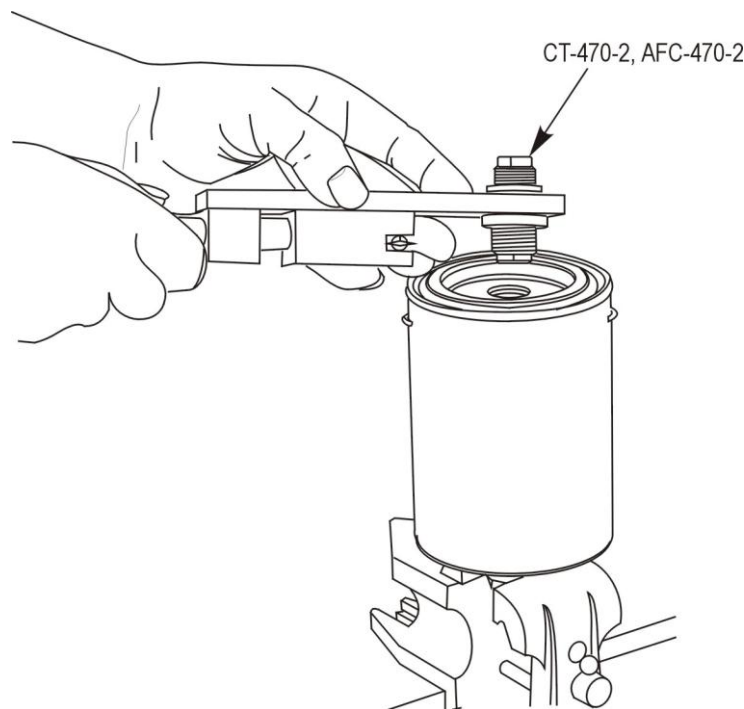

Figure 6. Mounting of Tool – CT-470, AFC-470 on Filter
1. Secure the filter can in a bench vise. When cutting open a female threaded type filter, use the CT-470-2 or AFC-470-2 adapter as illustrated in Figure 6. Male threaded type filters can also be opened with the cutter by removing the CT-470-2 or AFC-470-2 adapter from the rotating bushing.